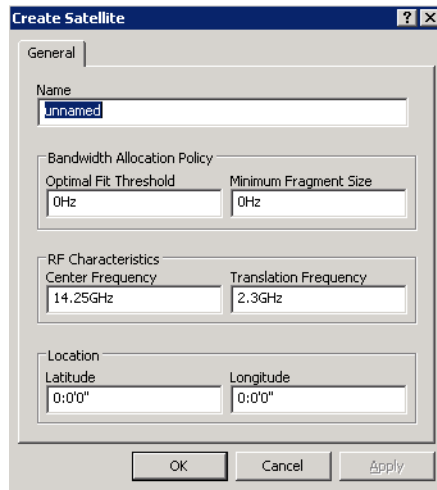

Figure 3-13 Create Satellite dialog
2. Enter the satellite **Name** and the **Center** and **Translation Frequency** settings in the Create Satellite dialog (figure 3-13).